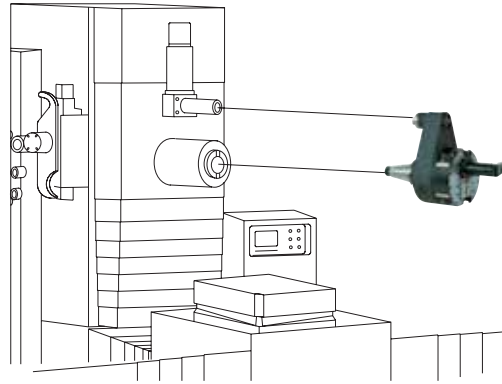
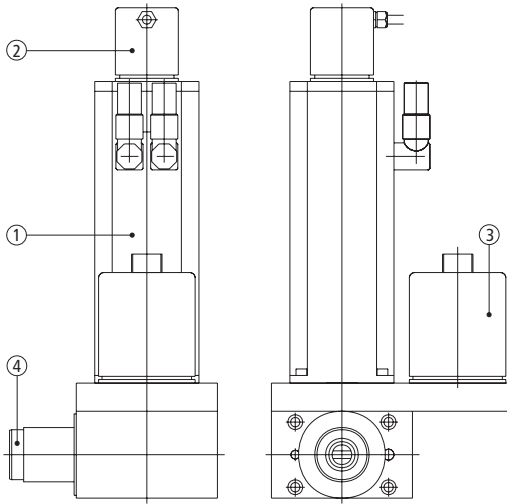

fig. 3
fig. 4
The U-DRIVE unit has to be properly mounted on the machine's headstock to allow for a safe engagement with the U-CENTER head (fig.3). The U-DRIVE unit contains the U axis servomotor (1), a transducer (2), the end of stroke (3), zero reference proximity switches and the drive system to the U-CENTER head. The U-DRIVE can take different patterns according to the application on the machining centre; the most common are: angle (fig.4) or in line (fig.5)